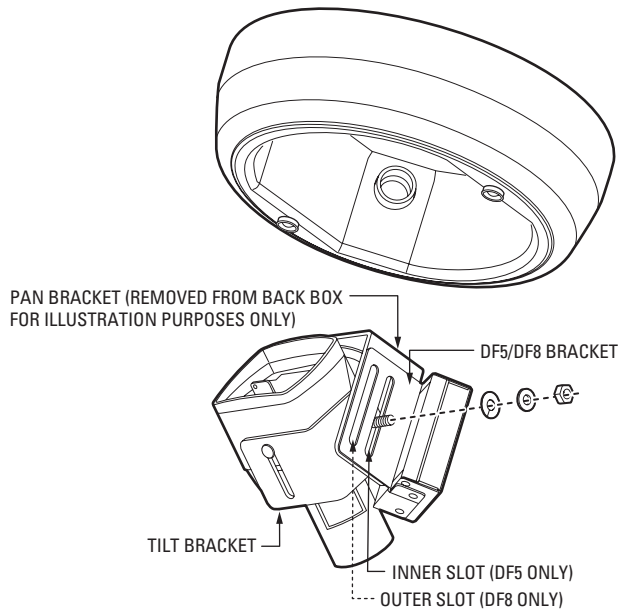

Figure 17. Mounting FTV10M Transmitter into DF5/DF8 In-Ceiling Dome
8. Mount the transmitter into the back box as follows (refer to Figure 17):
NOTE: In Figure 17, the pan bracket is removed from the back box for illustration purposes only. You do not need to remove the pan bracket from the back box.